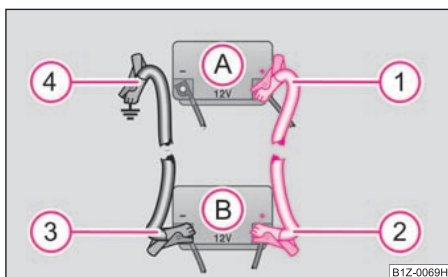

Fig. 172 Jump-starting using the battery from another vehicle: A - flat vehicle battery, B - battery providing current
- Attach one end **1** to the positive terminal ⇒ fig. 172 of the discharged battery **A**.